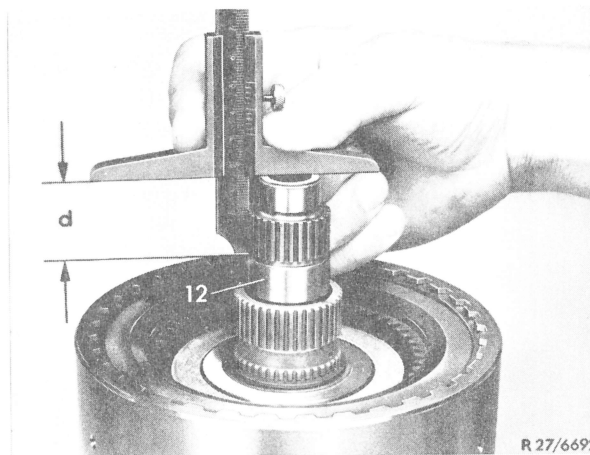

Fig. 25
39 Measure distance from face of intermediate shaft (12) to shoulder of intermediate shaft and determine dimension "d" (Fig. 25).